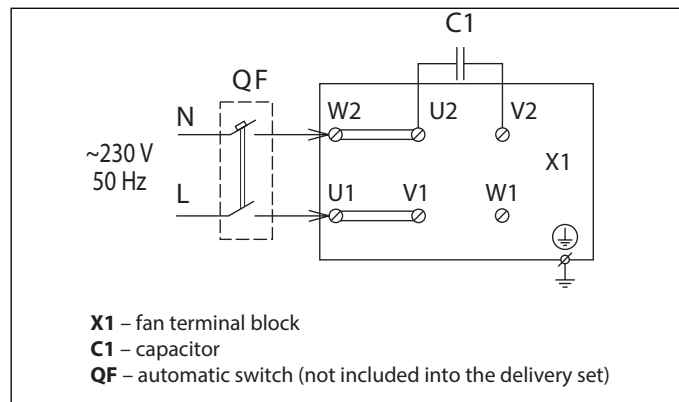

Fig. 3. Wiring diagram for single-phase fans
Mounting of the fan on the wall with the KS-ISK mounting angle brackets is shown in fig. 3 (available upon separate order).
The wiring diagram for connection of the single-phased fans is shown in fig. 3. The wiring diagram for connection of the three-phased fans is shown in fig. 4.
3. Route the electric cable to the terminal box through the electric lead-in and connect the cable wires to the input terminal box in compliance with the wiring diagram, fig. 3, 4. Fix the cable with nuts. Re-install the terminal box cover and fix it with screws.